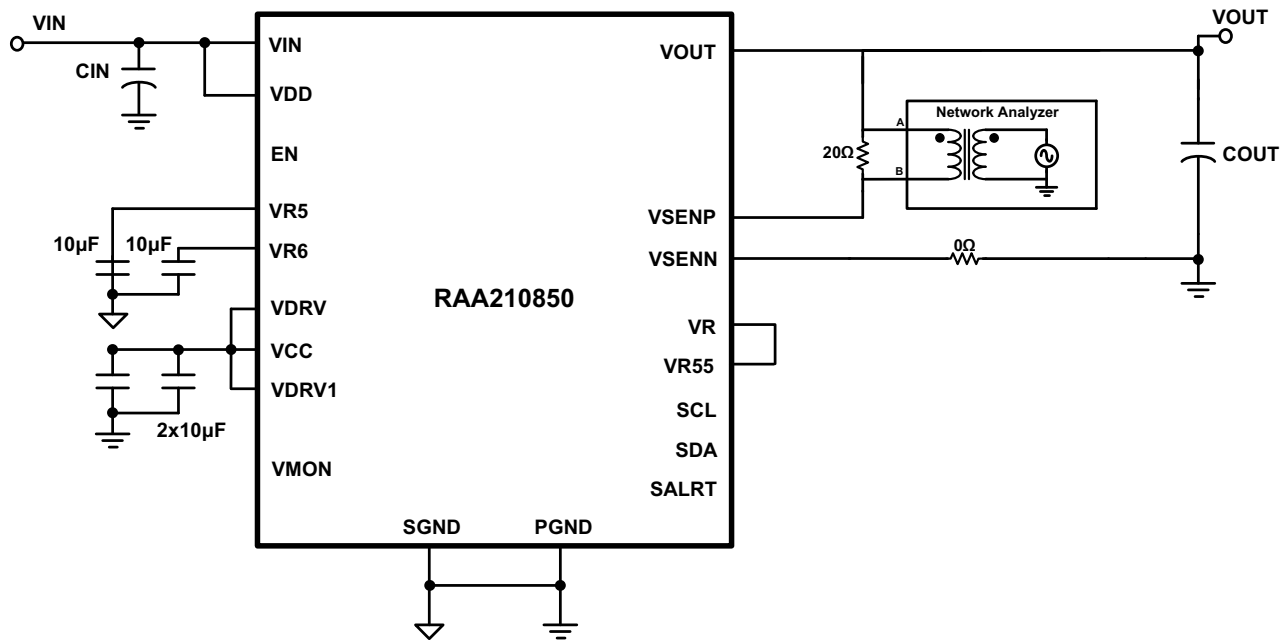

Figure 2. Schematic for Evaluating a Converter Loop Response
- (1) Break the feedback loop by removing the R₁₀ resistor in remote sense path, connected between VSEN_P and VOUT.
- (2) Solder a 20 Ω resistor in its place. The value of the resistor could be in the range 10 Ω to 50 Ω .
- (3) Solder a twisted wire pair to the 20 Ω resistor. Ensure that the wires are short in length. A small twisted pair works well by minimizing noise pickup, which is important for a good measurement.
- (4) Enable the converter.
- (5) Use a Network Analyzer to inject a small AC signal (~20mV) across the 20 Ω resistor as shown in Figure 2 on page 7.
- (6) Measure the amplitudes of the signals at points A and B as shown in Figure 2.
- (7) Sweep the frequency using the Network Analyzer to observe the bandwidth and the phase and gain margins.